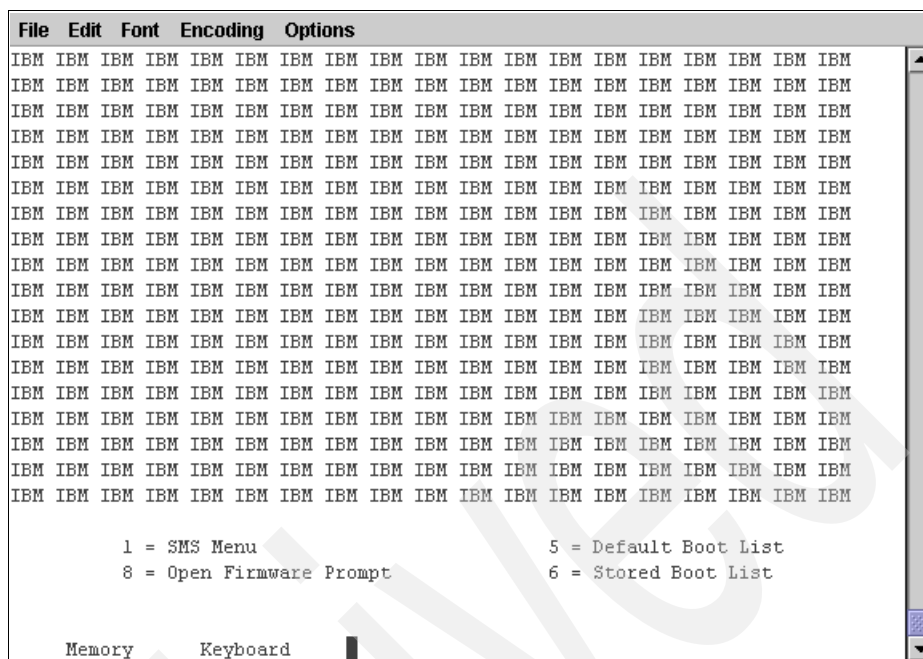

Figure 6-5 SMS menu
7. The SMS menu appears in the IVM terminal; see Figure 6-5 on page 288.